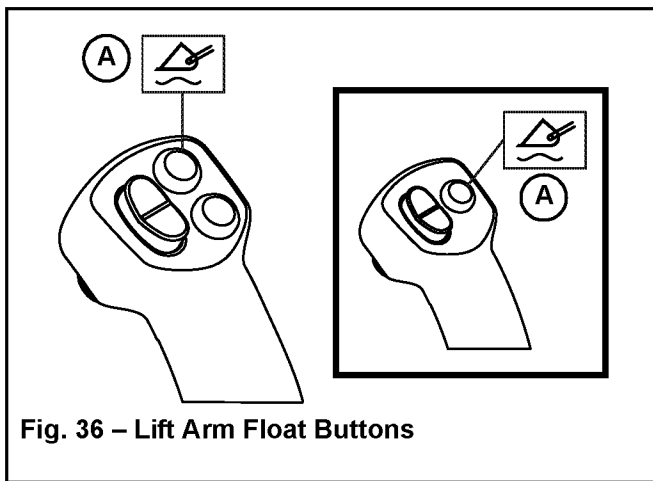

Fig. 36 – Lift Arm Float Buttons
Lift arm float is activated by lowering the attachment to the ground and using button (A, Fig. 36) on the right joystick. Press button (A) to activate float; press and hold button (A) for 5 seconds to engage continuous float activation. Press button (A) and quickly release to deactivate float.